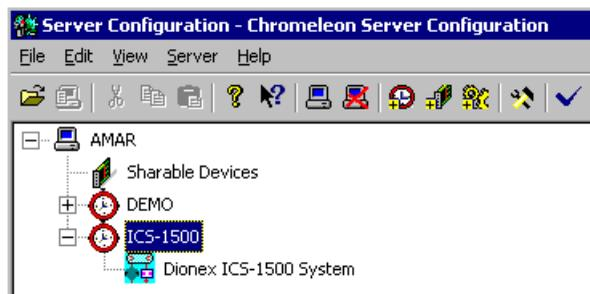

Figure 12. Server Configuration with ICS-1500 Timebase
- Click the + icon next to the server name to expand the folder. The timebase you created is displayed (see Figure 12).